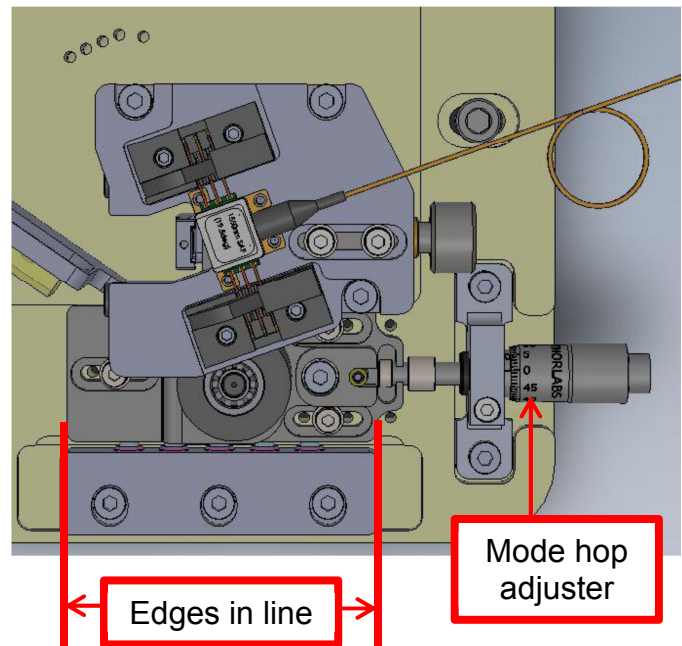

Figure 9 Grating Pivot Bracket Alignment
Step 11: Attach the grating pivot bracket to the base plate using three M3 cap screws. A good starting point for the position of the grating pivot bracket is with the main body of the bracket in line with the edges of the pusher bar (bar with five fixture springs) as shown in Figures 9 and 10. To attach the pivot bracket, slide it into position between the machined edge provided on the base plate and the series of fixture springs such that the pressure from the fixture springs keeps the other side of the bracket in contact with the machined edge. The three mounting screws (screw, spring washer, flat washer) should be tightened enough to keep the base of the pivot bracket in contact with the base plate, yet still allow for the bracket to translate.